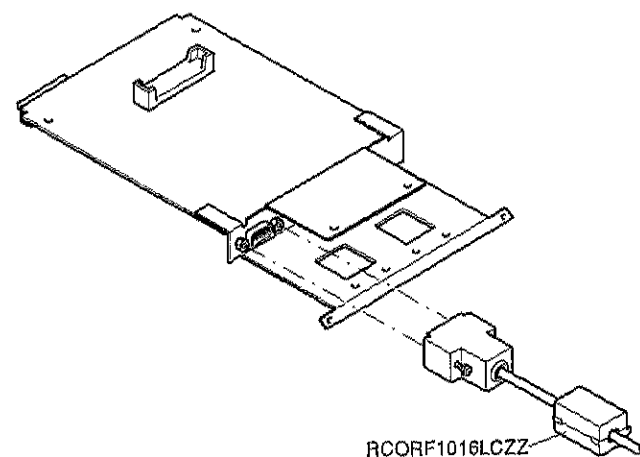

Fig. 1
- Be sure to install the core (RCORF1016LCZZ) on the inline cable. (Fig. 1)
② RS232 cable